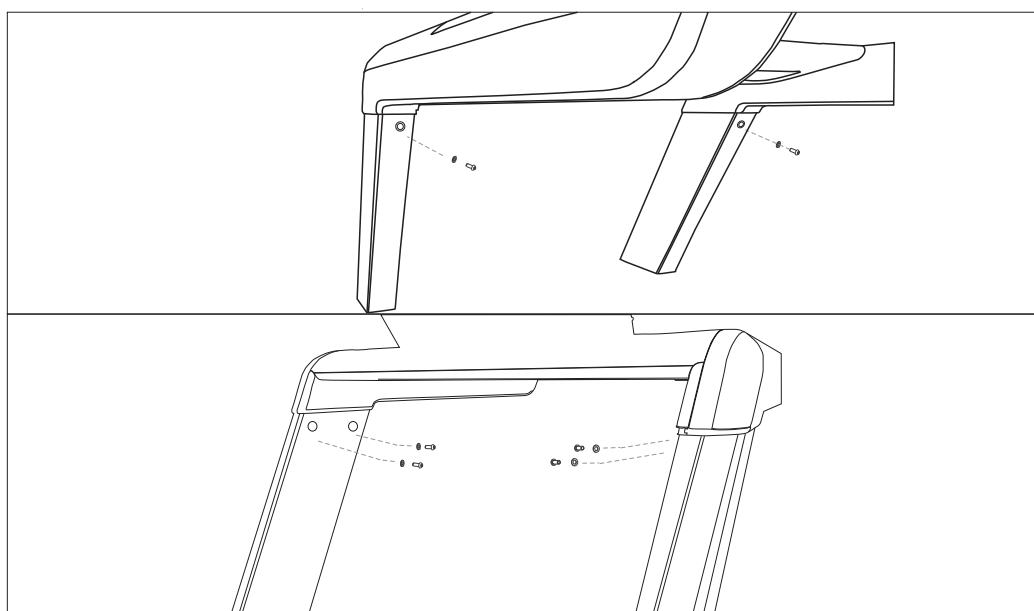

Figure 4
(7) Align the screw holes on the handrail board to the screw holes at the top of upright poles (3 holes each side), then twist down M10*25 hexagonal fillister head screws and M10 flat gasket with 6# hexagonal spanner. Please don't screw too tightly. (See Figure 4)